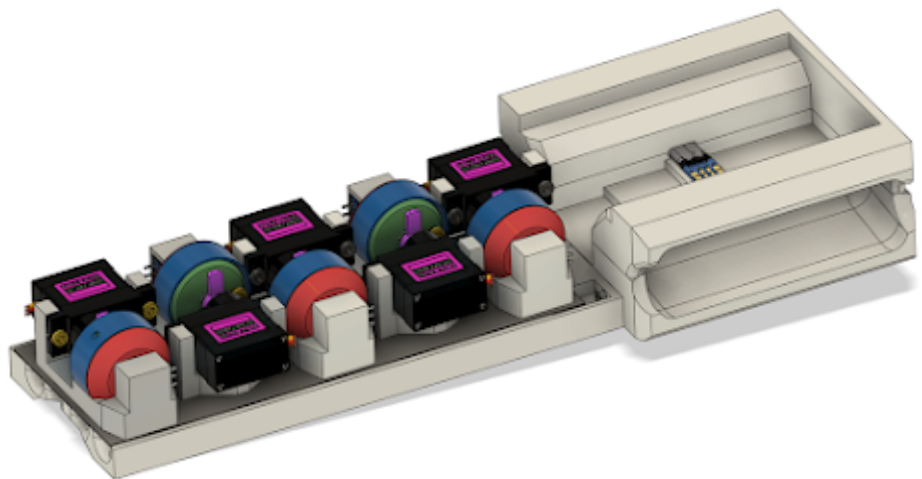

Figure 5.15: Complete part assembly of Servo Baseplate to Battery Mount.
20. Draw 2 more marks on the Servo Baseplate, 1 on each side. They should be ~ 1 inch from the Bottom Battery Mount, and 3/8th of an inch from the bottom (Figure 5.15).